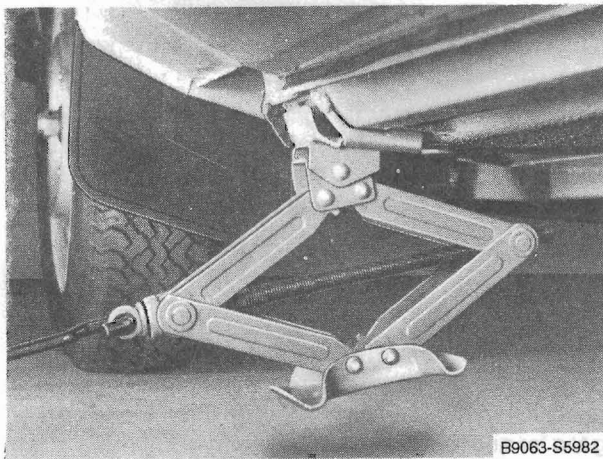

Fig. 16. Saab-supplied jack correctly installed at front left jacking point.
2. Place the jack in position. See Fig. 16. Make sure the jack is resting on flat, solid ground. Use a board or other support to provide a firm surface for the jack, if necessary.